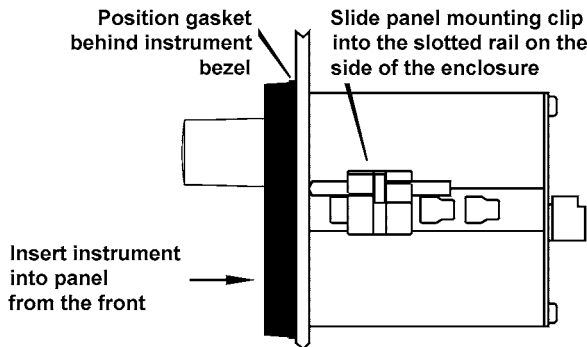

Fig 4 Fitting panel mounting clips
- b. Fix two panel mounting clips to opposite sides of the instrument and tighten until the indicator is secured as shown in Fig 4.